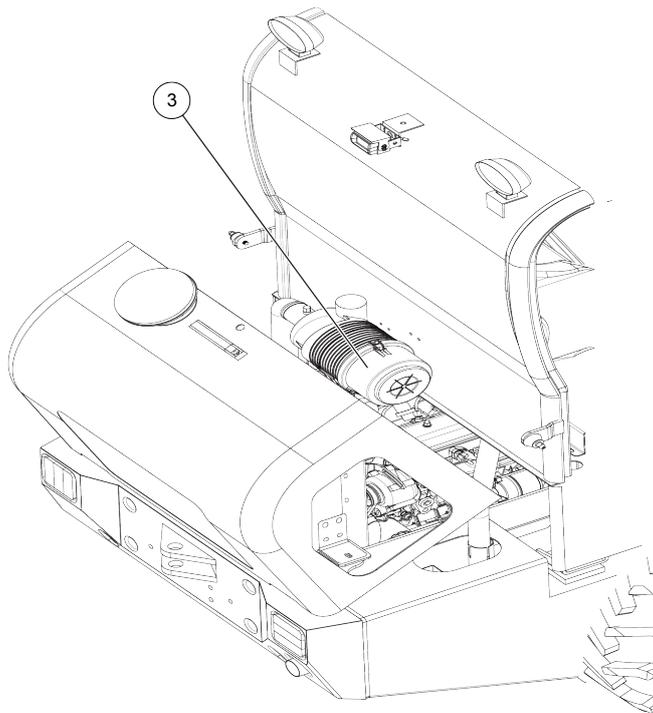

Figure 6-36 Replacing the air filter
(1) Nut (2) Filter cover
Step 3: remove the cover of mounting frame(3), as shown in Figure 6-36;